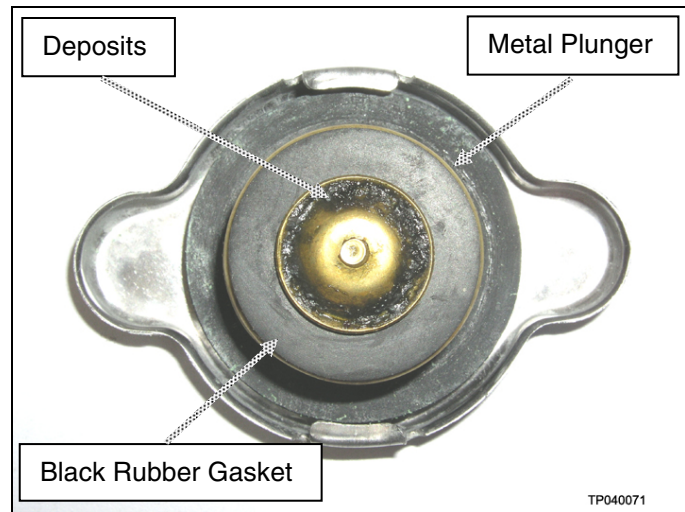

Figure A3
C. If the Metal Plunger can be seen around the edge of the Black Rubber Gasket, but there are deposits of waxy residue or foreign material on the gasket or the metal retainer (see Figure A3), the radiator cap must be replaced.